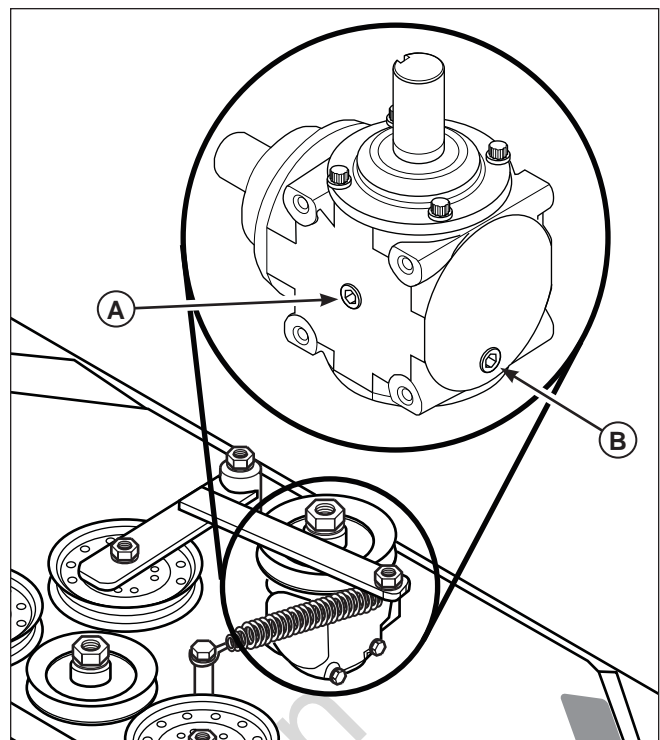

Figure 50. Gearbox Oil Level
4. Remove the oil fill plug (**A**, **Figure 50**) on the gearbox.